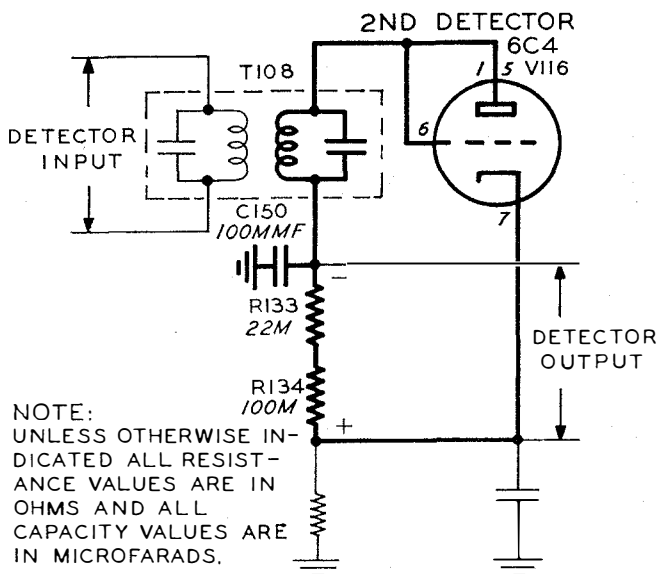

Figure 4-13—2nd Detector Circuit
(3) DETECTOR CIRCUIT. (See figure 4-13.)